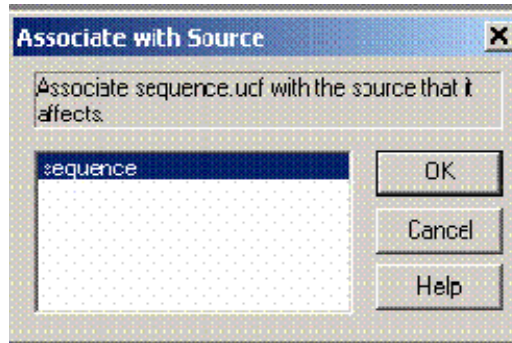

Figure 9: Associate with Source
3. Adding the UCF file to your project; Go to **Project** → **Add Source** to add the **sequence.ucf** file to your project. Choose to associate the UCF file with the **sequence.vhd** source and click **Ok**. Refer to Figure 9.